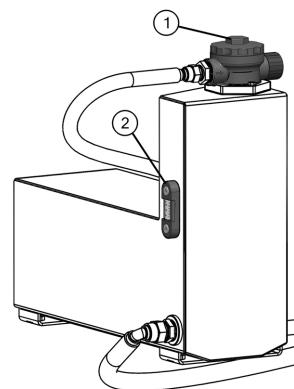

Figure 29 - Hydraulic Tank
3. Clear all debris from around the hydraulic tank (Figure 29).
4. Remove the black screw cap from the top of the filter housing (Figure 29, Item 1).
9. Refill with hydraulic oil VG32 to between the 'Min' and 'Max' lines on the tank (50 litres) (Figure 29).